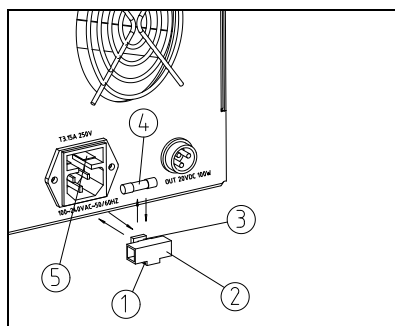

Fig.43
(1) Before replace the fuse, please set the main power supply and mercury lamp power supply at “O” (OFF) and take off the plug.
(2) Fasten the flute ① under the fuse holder ② by fingers, take out the fuse holder ② from socket ⑤. Then take off the fuse ④ from the above flute ③ and replace it with a new one. Then put it to the flute ③ and push the fuse holder ② into the socket ⑤, until a sound of “kada” is heard. (See Fig. 43)